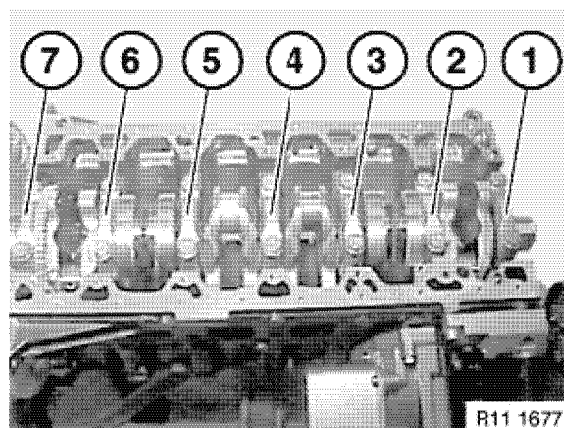

Figure 5-109
13. Remove the crankshaft bearing caps and main bearing inserts (**Figure 5-109**).